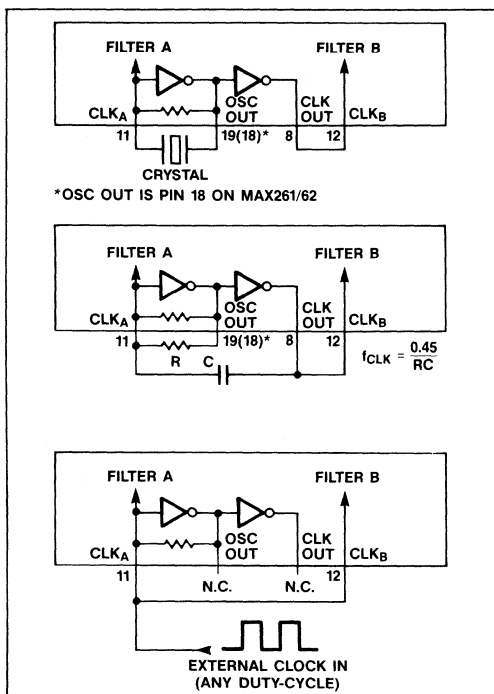

Figure 4. Clock Input Connections
The clock circuitry of the MAX260/61/62 can operate with a crystal, resistor-capacitor (RC) network, or an external clock generator as shown in Figure 4. If an RC oscillator is used, the clock rate, f_{CLK} , nominally equals $0.45/RC$.